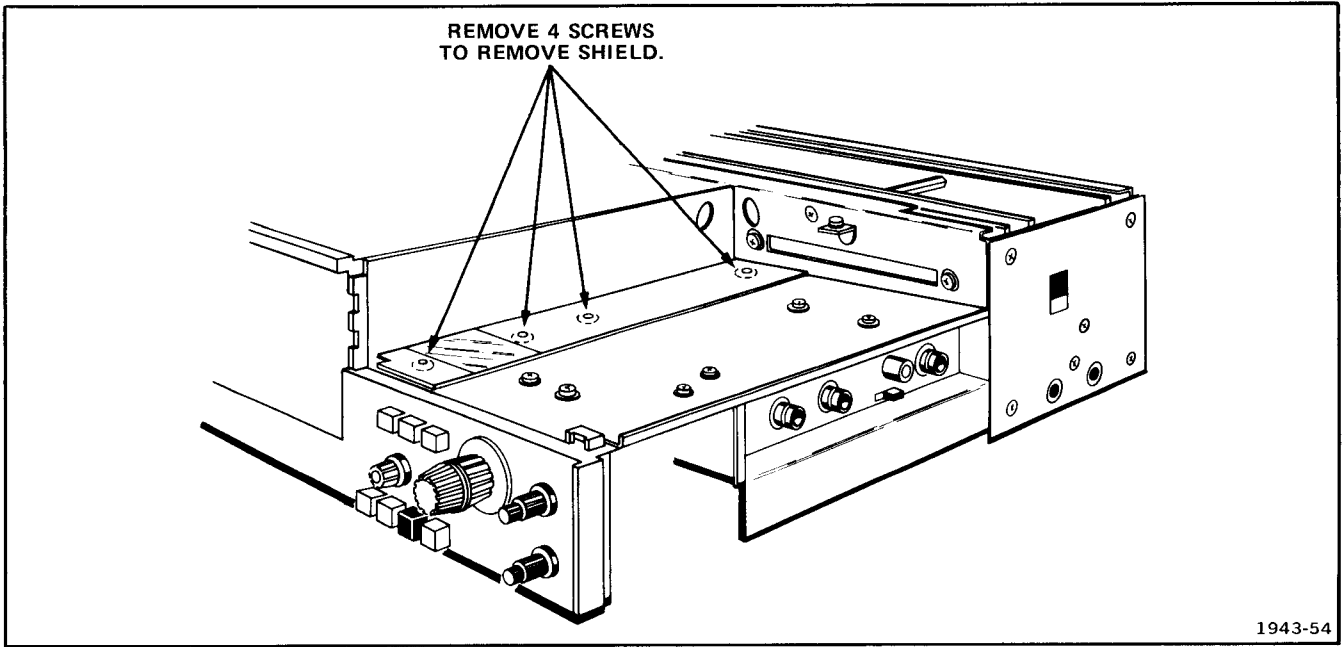

Fig. 4-7. Trigger Board access, shown with shield removed.
b. Remove four flat-head screws (see Fig. 4-7).